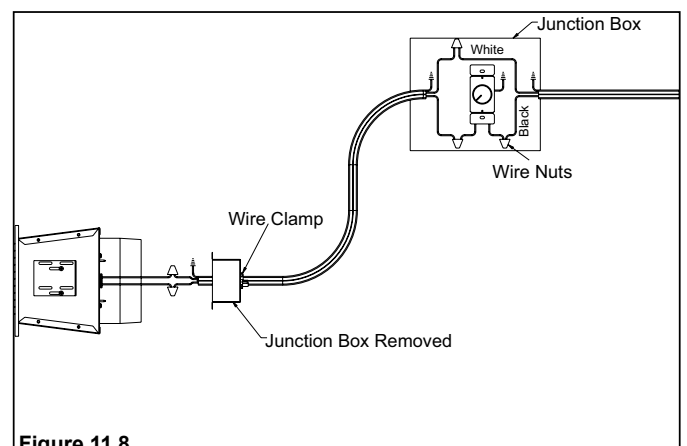

Figure 11.8
11. Remove the Junction Box. Wire 110 VAC service TO the wall rheostat and FROM the wall rheostat to the fan Junction Box. Use wire nuts to secure the 110 VAC service wires to the hot (black) and neutral (white) fan wires and screw the 110 VAC ground wire to the Junction Box. See Figure 11.8.